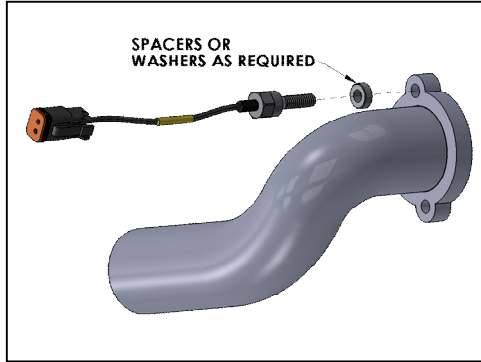

Figure 3
Figures 3 through 8 depict generic examples of threaded elements installed.
- c) As required, use aluminum spacer(s) and/or metal washer(s) to prevent over extending (no more than 2 to 3 threads), or bottoming out of element (Figures 3 and 6).